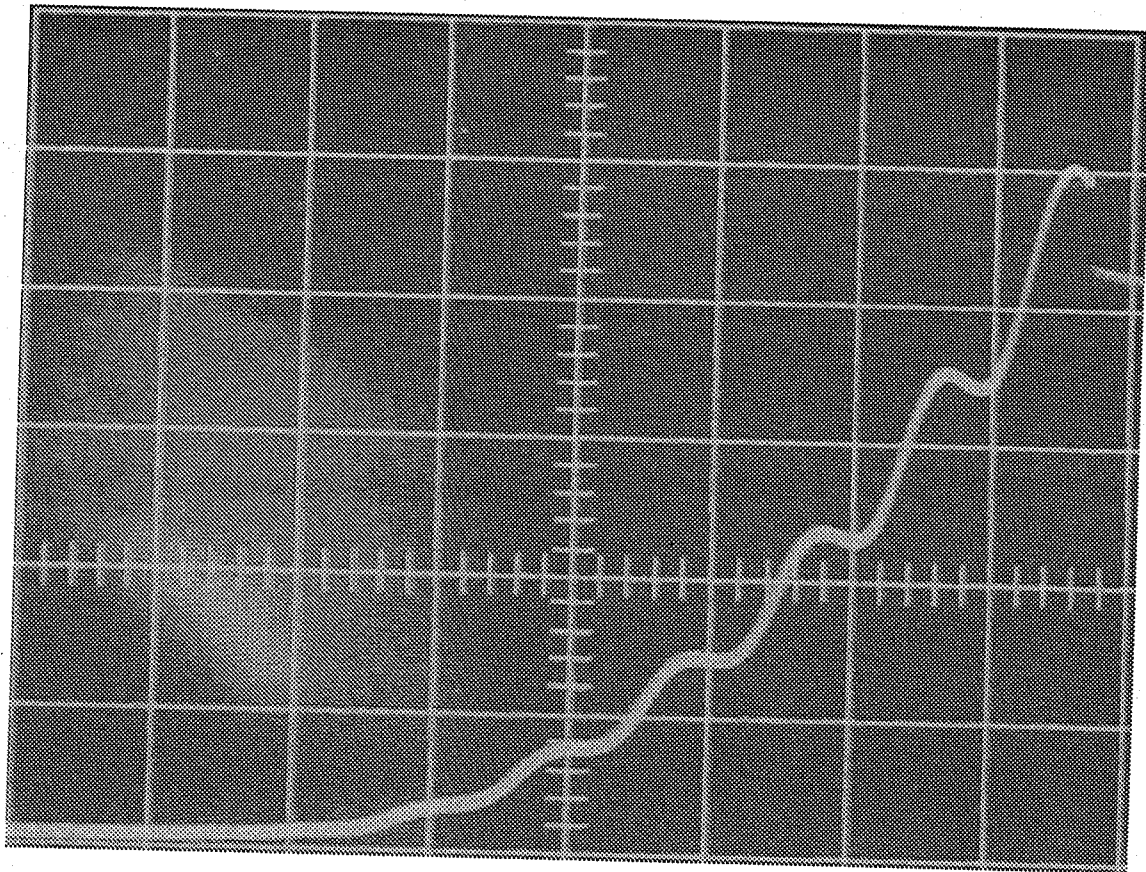

Fig. 4 Franck-Hertz-Experiments with the Hg-tube: Saw tooth measurement displayed by an Oscilloscope
B) Set the following parameters with pushbutton (2) and rotary switch (13).
C) Switch on the oven with pushbutton (4). The red LED above pushbutton (4) continues to flash until the target temperature is reached.
D) Set to "saw tooth" with pushbutton (3). Connect outputs (7) and (8) to the oscilloscope, then select the XY operating mode for the oscilloscope. Start measurement with pushbutton (5). In this "saw tooth" mode, the voltages set for U_1 and U_2 are applied to the Hg-tube with a frequency of 28 Hz. The typical Franck-Hertz curve that results is shown in Fig. 4.